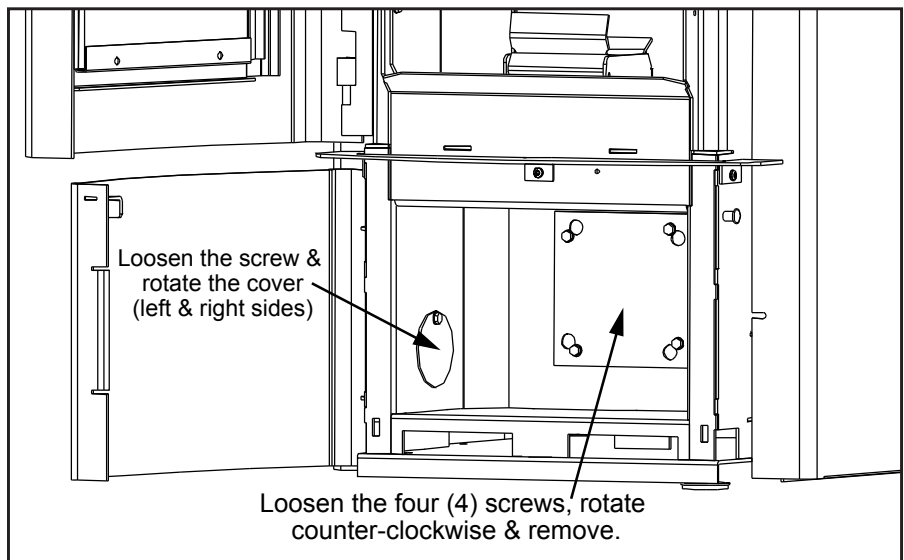

Figure 10: Mini Clean-Out Covers.
- Using a  $\frac{5}{16}$ " socket, loosen the six (6) screws in the ash box compartment; four (4) on the back and one (1) on each side (see Figure 10).
- Vacuum out all three (3) chambers.